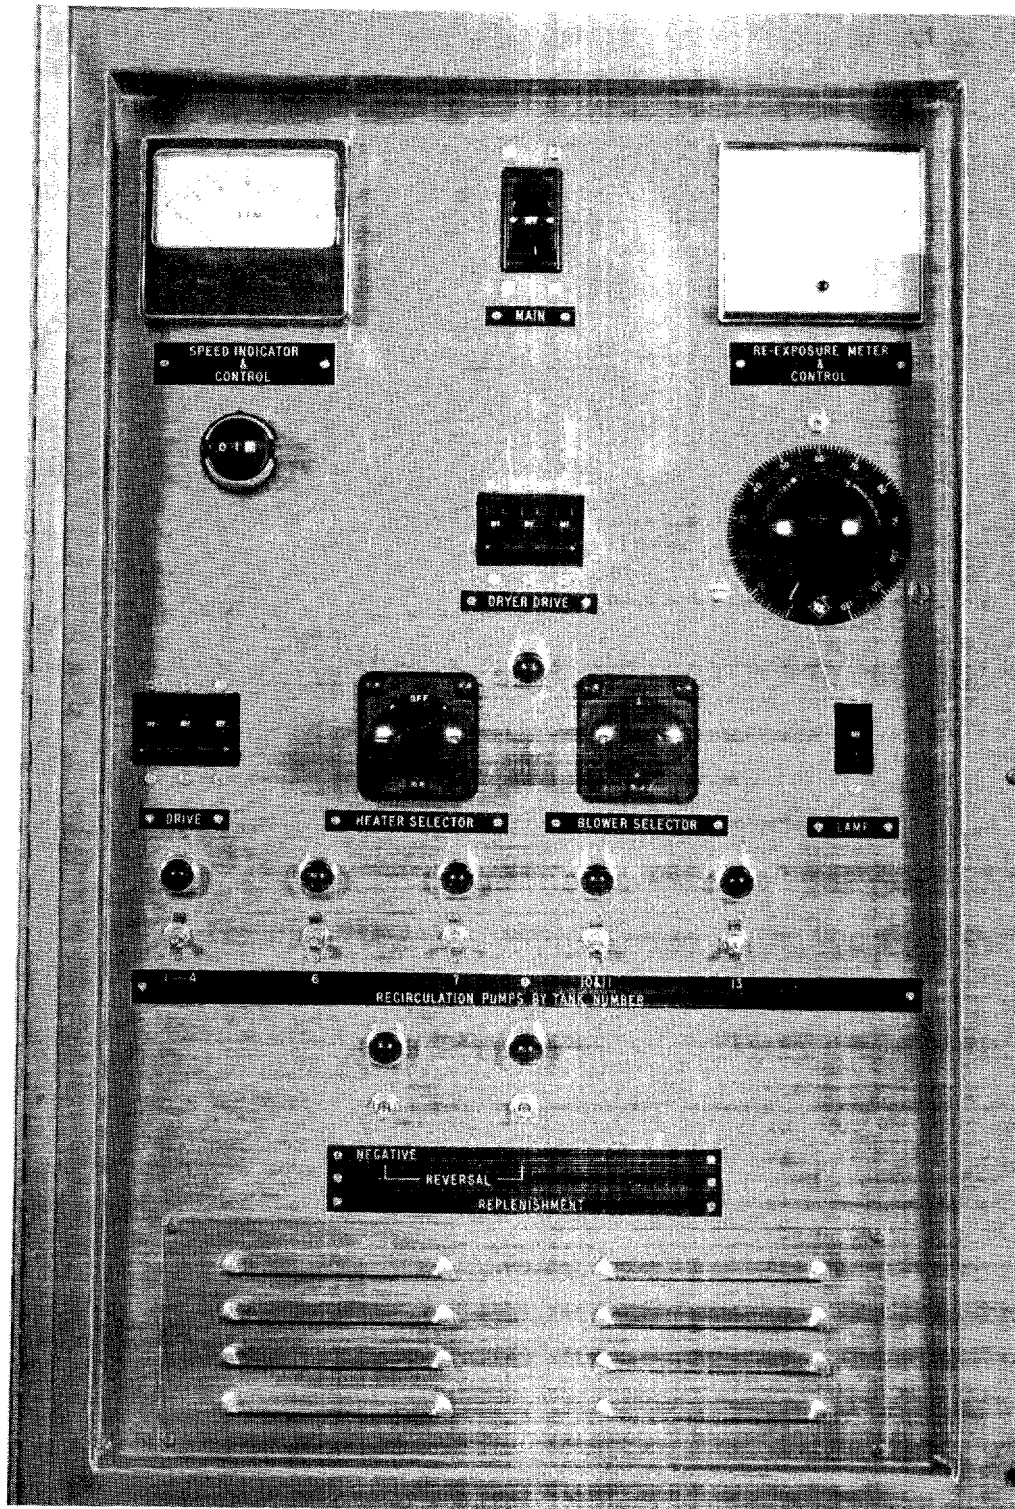

Figure 4. Electrical Control Panel
The panel is shown in Figure 4. Following is a description of each control and indicator on this panel:
- (1) The switch labeled 1-4 (See Figure 4) energizes the pump for developer and this solution recirculates through the first four tanks.
- (2) No. 6 energizes the pump which recirculates bleach solution (used only during reversal process) through tank 6.
- (3) No. 7 energizes the pump that recirculates solution through tank 7 only during reversal process or through tanks 6 and 7 during negative process.
- (4) No. 10 & 11 energizes the pump that recirculates solution through tanks 10 and 11 during reversal and through tanks 8 through 11 during the negative process.
- (5) No. 13 turns on the pump for recirculation of fixer through tank 13 during the reversal process only.